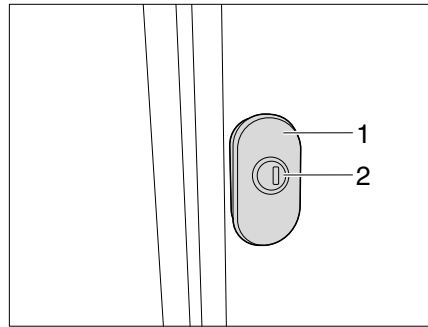
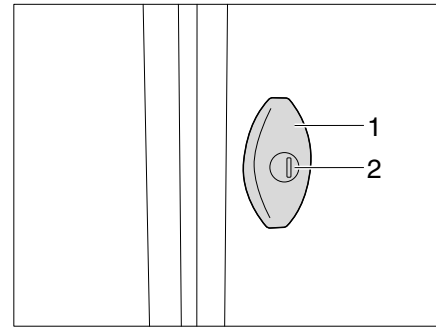

Fig. 56 Turnbuckle lock (variant 1)
Fig. 57 Turnbuckle lock (variant 2)
- Insert the key into the locking cylinder (Fig. 56,2/Fig. 57,2) and turn a quarter turn. The flap lock is unlatched.
- Pull on the turnbuckle lock (Fig. 56,1/Fig. 57,1) and rotate anticlockwise through 180°. The external flap is open.
- For variant 1: Push in the locking cylinder (Fig. 56,2) until it engages. The flap lock is locked.